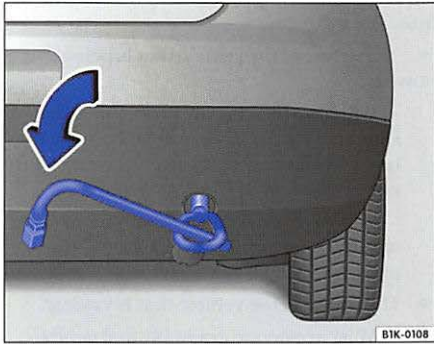

Fig. 44 Rear towing eye
- Screw the towing eye into the threaded hole, turning *counter-clockwise* as far as it will go ⇒fig. 44.